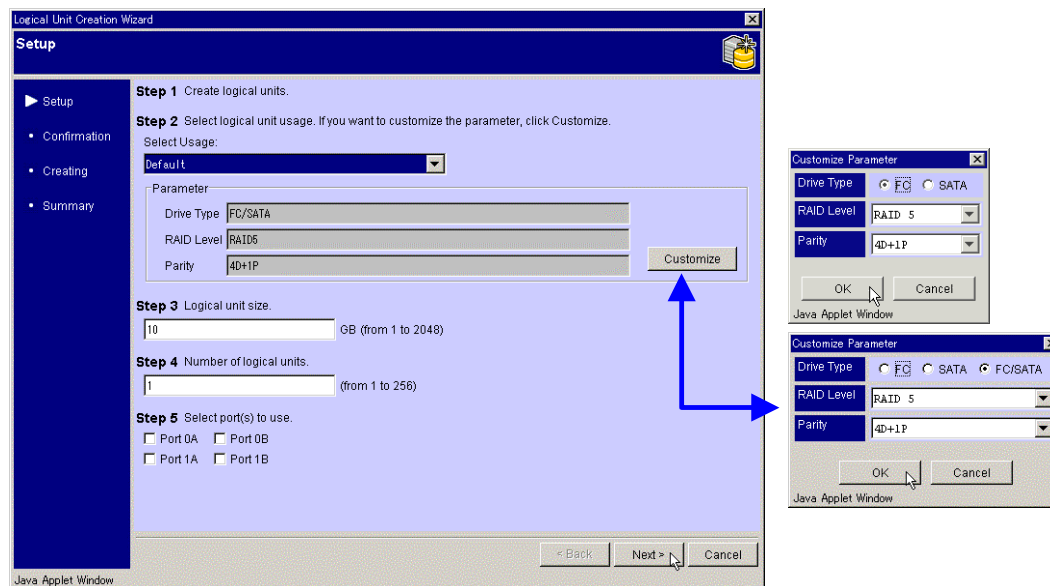

Figure 6.1 Logical Unit Creation Wizard - Setup
On the **Select Usage** drop down list (see Figure 6.1), select logical unit usage. A dialog box displays where you can select the usage by setting the suitable parameter for **Drive Type**, **RAID Level**, and **Parity**. If you want to customize the parameter, click **Customize** and select Parameter to set the **Drive Type**, **RAID Level**, and **Parity**. See Table 6-1.
2. Specify the logical unit size, number of logical units, and port(s) to use. See Figure 6.1.